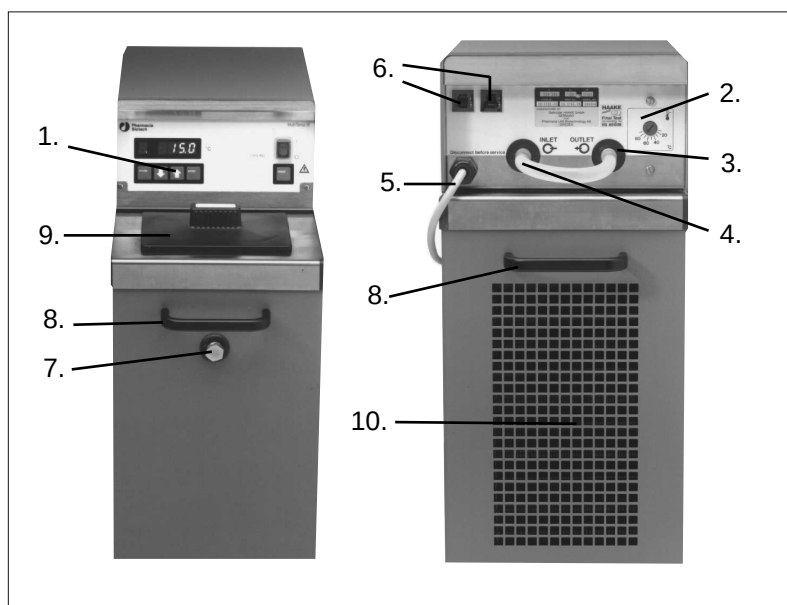

Fig. 1. Front and rear view of MultiTemp III.
1. Connect the inlet and outlet tubing to the nozzles on the rear of the circulator (Fig. 1).
To drain the bath, switch off the mains power and remove the outlet tubing from the external equipment and let the liquid pour into a large vessel using hydrostatic pressure. The bath contains 3 litres of liquid, plus the volume in tubing and connected equipment. The last millilitres can be removed by opening the screw on the front of the unit, (see Fig. 1).